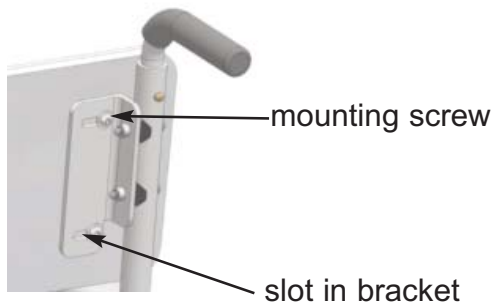

Figure 6
**E** Turn the chair right side up and install the backrest assembly. Slide the two backposts into the back of the seat frame and tighten the two socket head cap screws using the ¼" Allen wrench also tighten the four button head capscrews that attach the back cushion to the back posts (Refer to Figures 4 & 5). For details on the 20" frames (Refer to Figure 6).